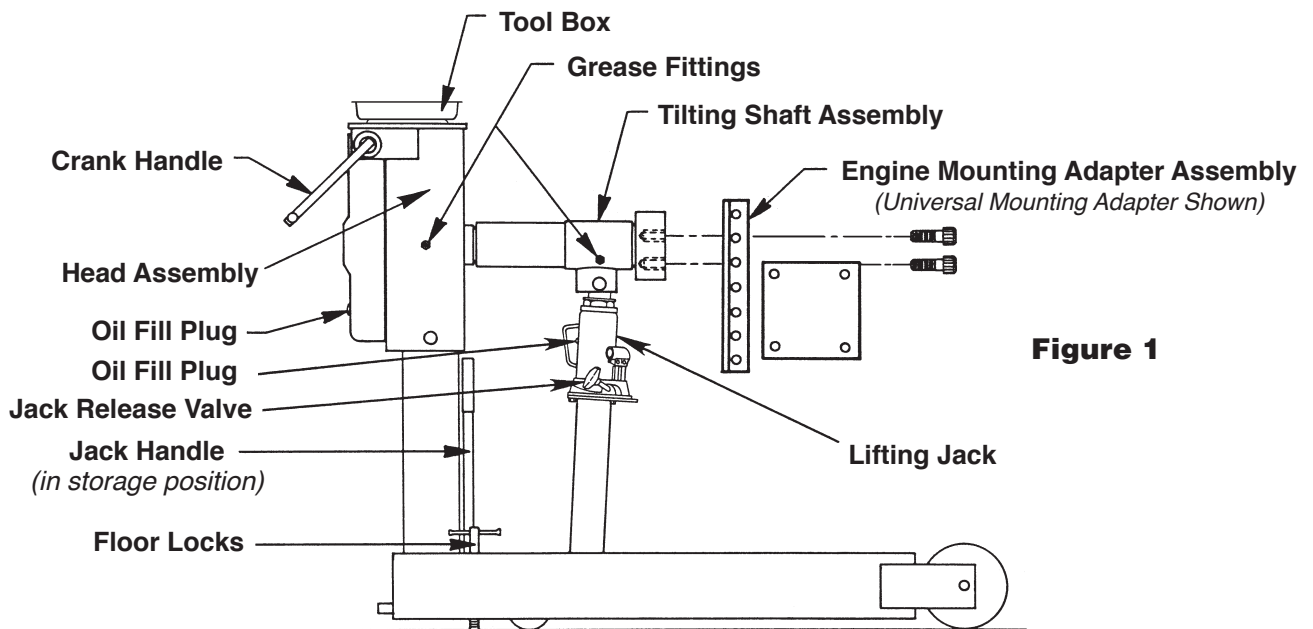

Figure 1
6. Raise the lifting jack assembly and fit it into the mounting bracket located under the tilting shaft assembly. Insert a pin (15) and fasten the pin in place with a retaining ring (4).
7. Place the jack handle (29) in its storage position on the repair stand as shown in Figure 1.
8. Tighten the collar (6) until snug against the bushing on the tube assembly (3). Back off the collar 1/8 turn and tighten the set screw (5).
9. If an engine mounting adapter has been included, attach it to the tilting shaft as shown in Figure 1. Torque the bolts to 610 N•m (450 ft. lbs.)